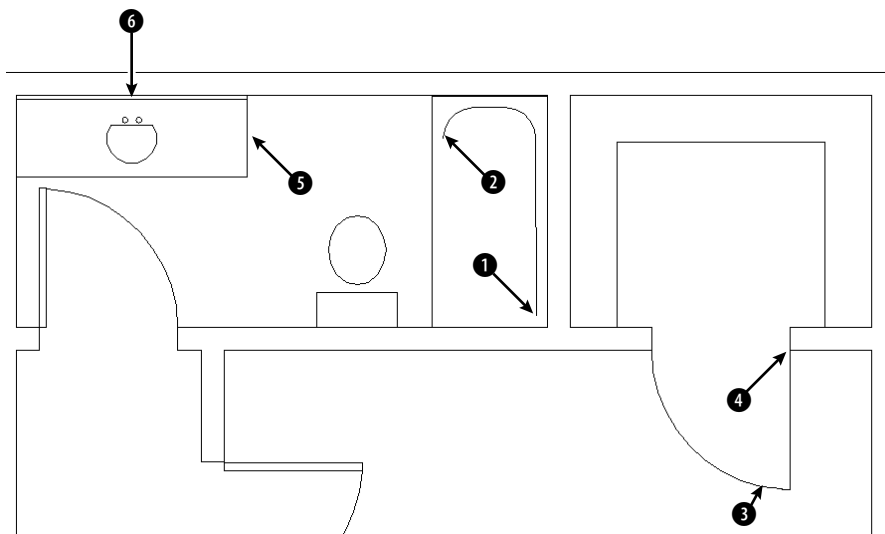

Figure 4-27: The tub, door, and sink to be completed in this plan layout.
3. Start the LINE command. At the `Specify first point:` prompt, pick the endpoint at ❶ in Figure 4-27. Be sure to pick on the endpoint itself, in order to acquire it.
4. At the Specify next point or [Undo]: prompt, pass the cursor over ❷. Move the cursor down a little, and you see the small plus sign showing that this endpoint has been acquired.
5. Move the cursor down until it is to the left of ❶ and vertical to ❷. When you see the tooltip (reading Endpoint: < 270°, Endpoint: < 180°) and the small x marking the intersection of the two points, click to end the line segment.
6. At the Specify next point or [Undo]: prompt, click at ❷ and end the LINE command.
7. Start the LINE command again. At the Specify first point: prompt, pick the endpoint of the arc at ❸ in Figure 4-27. If you're not sure that you found the right endpoint, press Tab until the arc is highlighted. Make sure that you've acquired the endpoint by clicking the endpoint itself or passing the crosshairs over it.
8. At the Specify next point or [Undo]: prompt, pass the cursor over ❹ until you see the small plus sign. Move the cursor to the left until you see the tooltip (reading Endpoint: < 90°, Endpoint: < 180°) and click.
9. At the Specify next point or [Undo]: prompt, pick the endpoint at ❹ and end the LINE command.
10. Start the CIRCLE command. At the Specify center point for circle or [3P/2P/Ttr (tan tan radius)]: prompt, pass the cursor over ❺ and then over ❻ to acquire both midpoints.